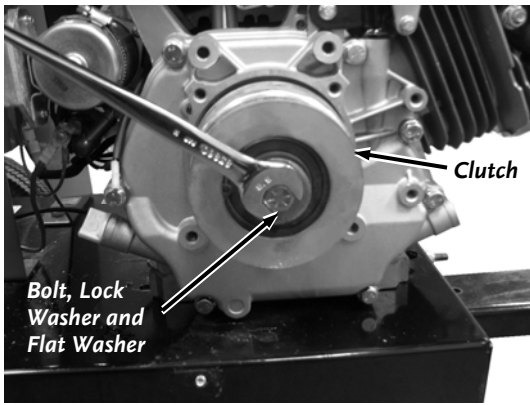

Figure 64
2. With a 5/8" Wrench, remove the Clutch Bolt, Lock Washer and Washer and then slide the Clutch from the Crankshaft (**Figure 64**).